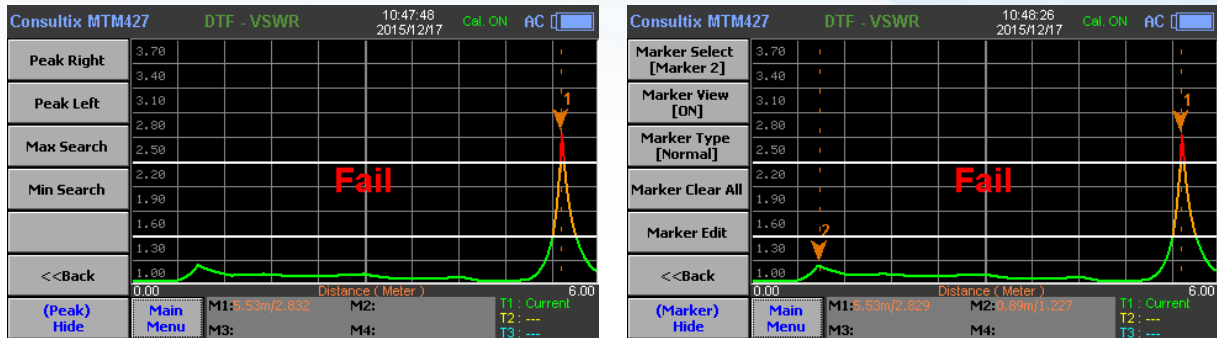

Figure 45: Fault detection
6. The curve shows peaks at the faulty location; on **Main Menu > Measurements**, click “Peak” to set a marker at the maximum peak point you can add markers from **Main Menu > Measurements > Marker** as shown in *figure 45*